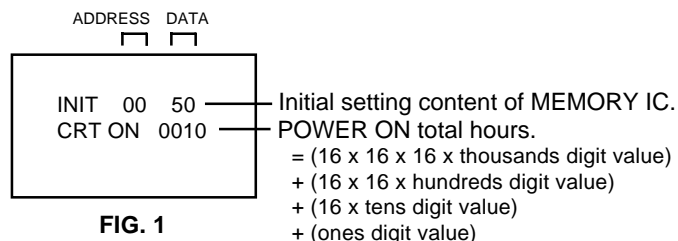

FIG. 1
2. Press both VOL. DOWN button on the set and Channel button **(6)** on the remote control for more than 1 second. ADDRESS and DATA should appear as FIG 1.